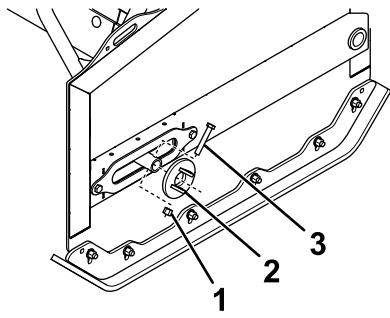

Figure 7
6. On the outside of the plow wing, secure the wing brace bushing to the wing brace using a bolt (5/8 inch) and locknut (Figure 7).